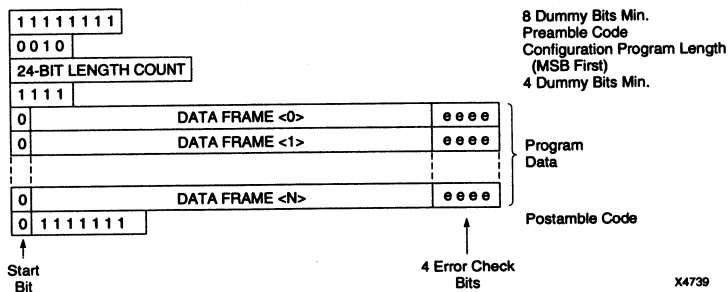

Figure 7-7 XC4000 Configuration Bitstream Format
Figure 7-7 shows the format of the XC4000 configuration bitstream, as generated by the MakeBits program. The bitstream consists of header and program data. The header consists of four dummy bits, the preamble code, the configuration-program-length count, and an additional four dummy bits. The program data is divided into frames consisting of a start bit (0), the data field, and four error check bits (eeee). The bitstream ends with eight or more postamble bits
Each data frame of the FPGA configuration bitstream has four error bits at the end, as illustrated by Figure 7-7. If a frame data error is detected during the loading of the device, the configuration process with a potentially corrupted bitstream is terminated. The FPGA pulls the INIT pin Low and goes into a wait state.